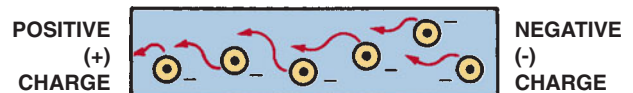

FIGURE 3-13 Current electricity is the movement of electrons through a conductor.
- As a result of this attraction of opposite charges and repulsion of like charges, electrons will flow through the conductor. ● **SEE FIGURE 3-13.**